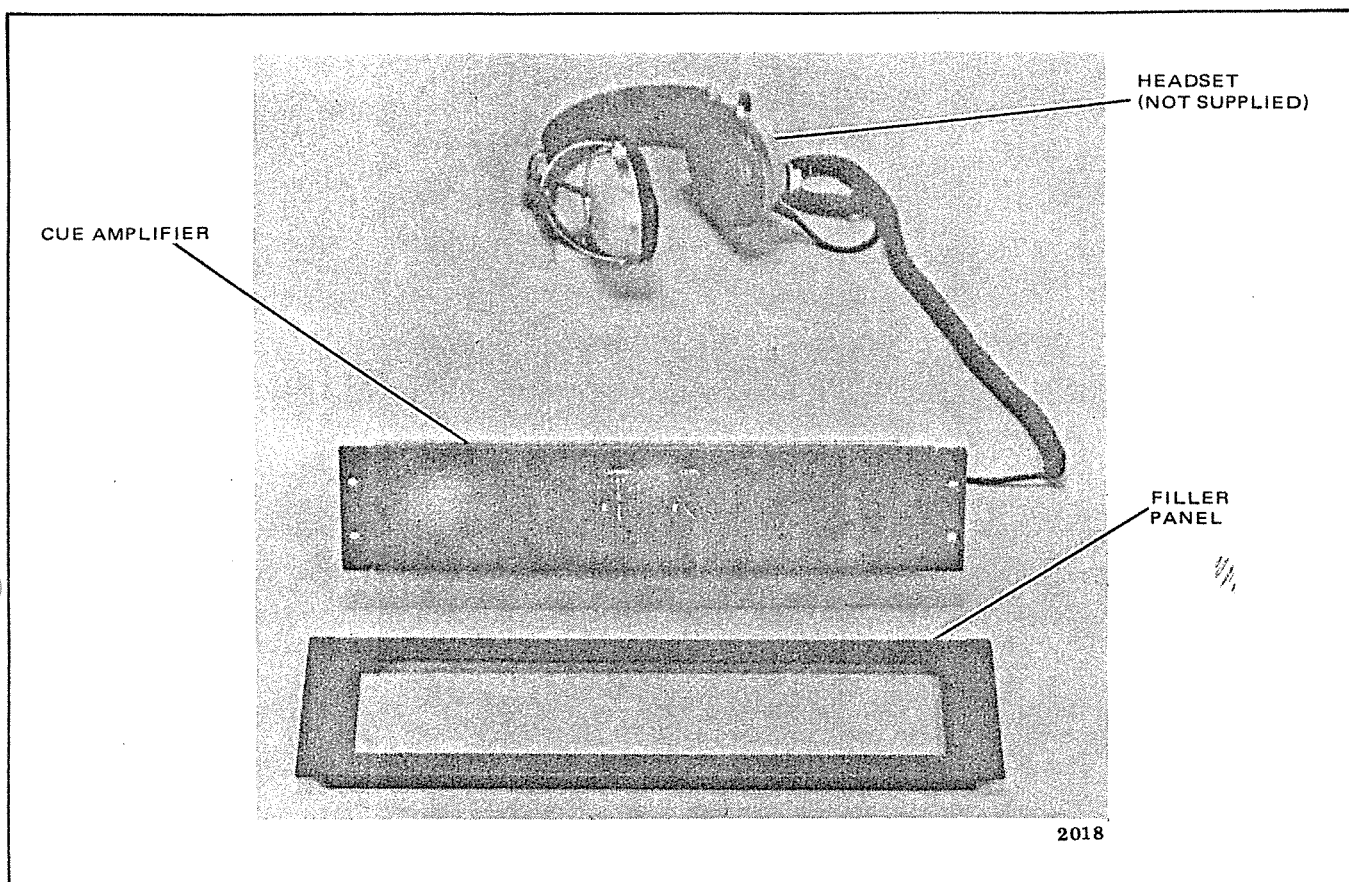

Figure 1. Cue Amplifier with Filler Panel
DESCRIPTION (See Figure 1)
2. Using four black 8/32 button head screws and four black washers, mount cue amplifier assembly (part no. 4020462-01) in filler panel (part no. 4291046-01) (see Figure 1).